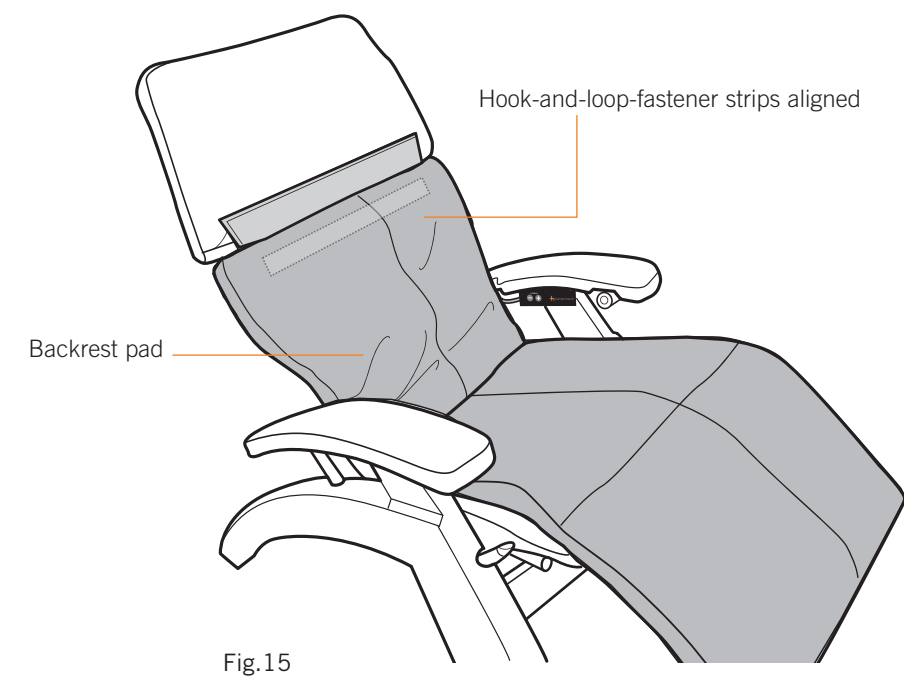

Fig.15
3. Pull up on the backrest pad until the hook-and-loop fastener strip on the back of the pad aligns with the hook-and-loop fastener strip on the chair canvas, then press the two strips firmly together (Fig.15).